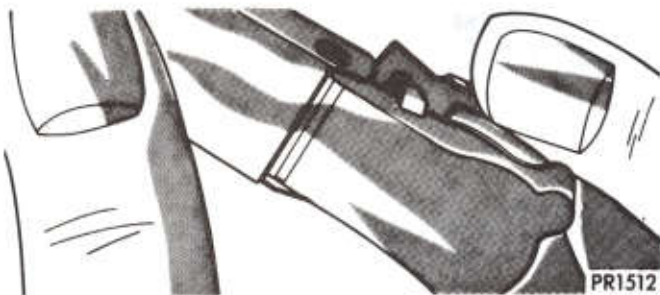

Fig. 4—Removing Wiper Arm
(1) Lift the arm to permit the latch (Fig. 4) to be pulled out to the holding position and remove the arm from the pivot using a rocking motion.